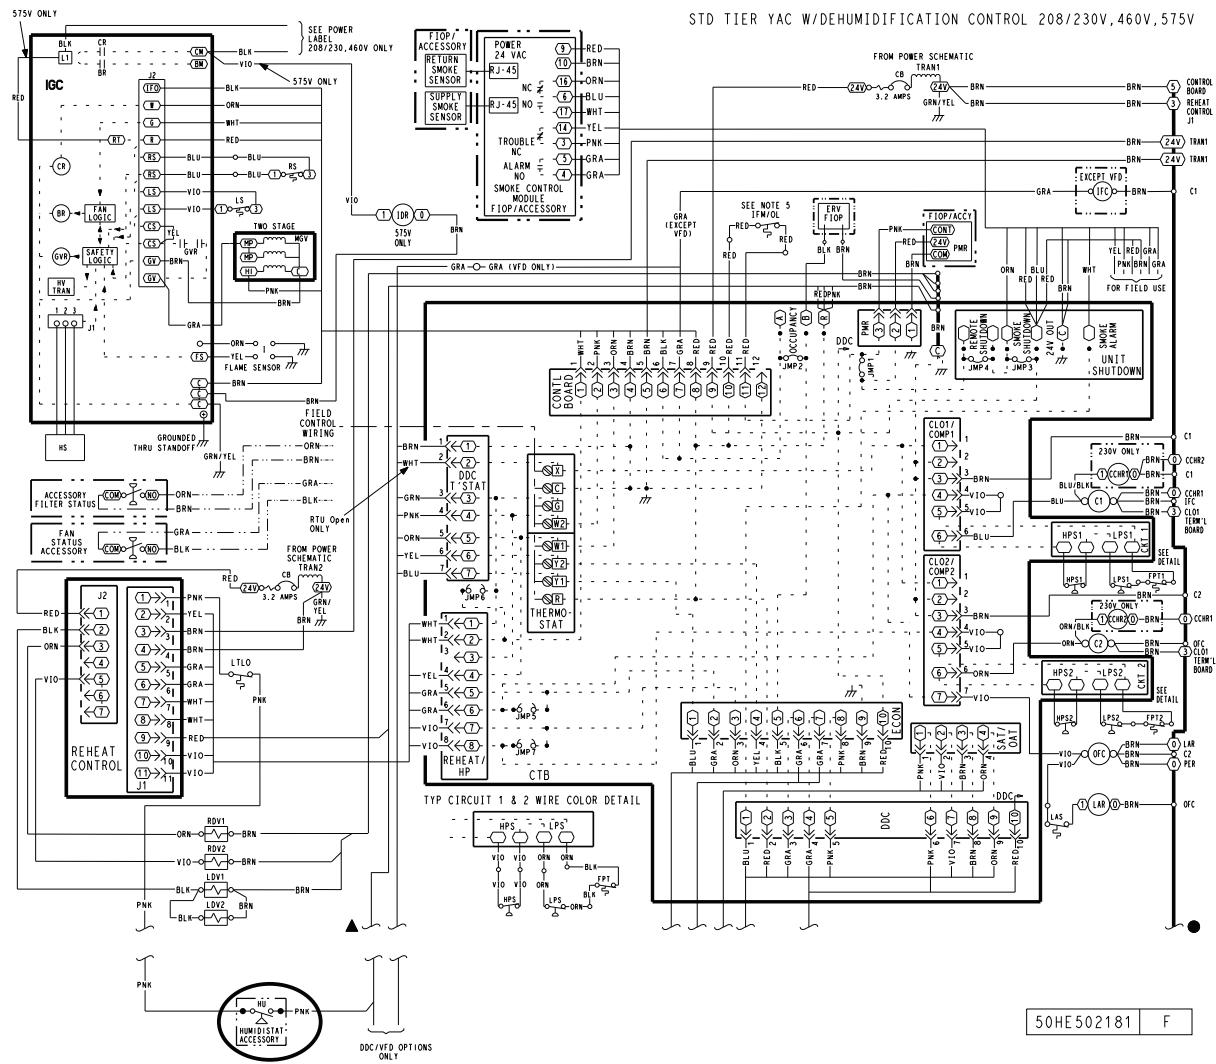

Fig. 53 — Typical Humidi-MiZer® Adaptive Dehumidification System Humidistat Wiring
3. Use wire nuts to connect humidistat cable to two PINK leads in the low-voltage wiring as shown in Fig. 53.